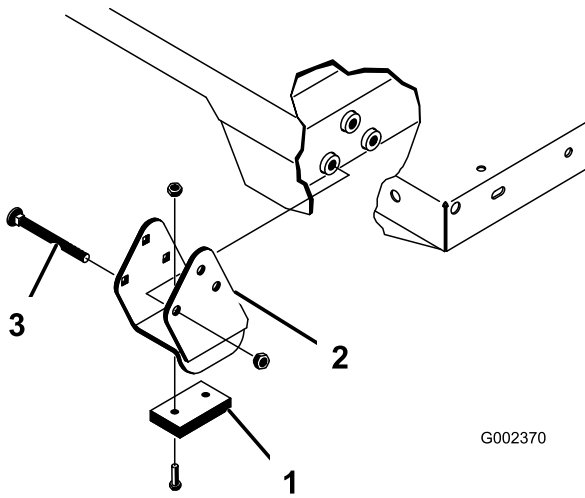

Figure 31
Note: Ensure that the spacer brackets and wear blocks (Figure 31) are installed with the carriage-bolt heads positioned inside the machine.
2. Carefully set the bed onto the machine frame, aligning the rear bed pivot-plate holes with the holes in the rear frame channel and install 2 clevis pins and lynch pins (Figure 31).
4. Insert the clevis pin from outside of the bed with the lynch pin toward the outside (Figure 31).